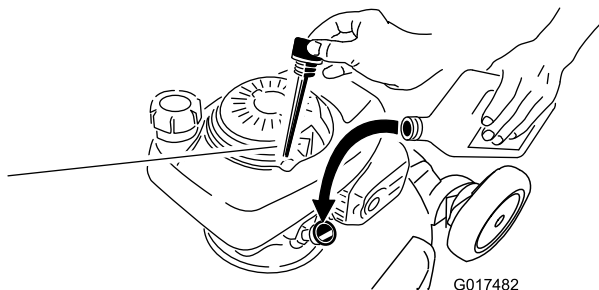

Figure 6
1. Remove the dipstick (Figure 6).
Figure 6. Wait 3 minutes after adding oil to check the oil level with the dipstick. **Do not overfill.** (Max. fill: 0.58 quart or 18.6 oz. (0.55 l), **type: SAE 30 detergent oil** with an API service classification of SH, SJ, SL, or higher.)